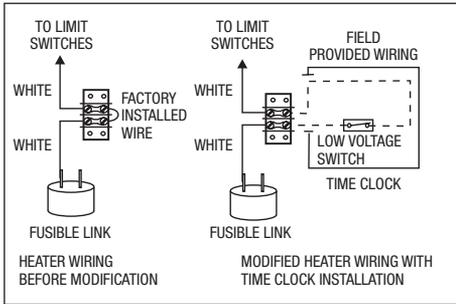

Figure 16. Typical time clock wiring.
If a time clock is provided to control the pool filter pump, it should have a separate low-voltage (Fireman’s) switch for the heater. Route the heater’s 24 VAC control circuit through this switch as shown in Figures 16 and 17. To do this, remove the “jumper” from the terminal block in the heater control compartment. Connect two (2) wires to this terminal block and route them to the Fireman’s switch at the time clock. Provide wiring of at least 18 gauge with insulation at least 3/64” thick and having a temperature rating of at least 90°C.